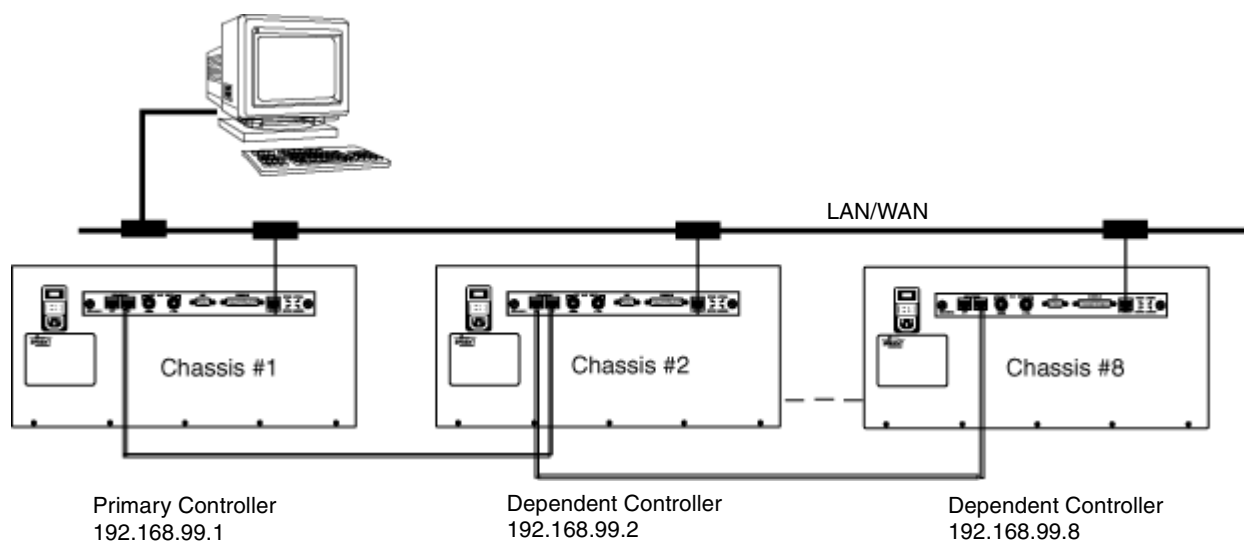

Figure A-4. Example of a Synchronized Multiple Chassis Connection using SMB-6000Bs
Each chassis must have its own IP address and be connected to a LAN or WAN (see “*Procedure 7: Set the IP Address*” on page 30, and *Figure A-4* on page 73).
**Note:** The *primary controller* chassis uses only the RJ-45 Expansion Out port. It **does not use** the RJ-45 Expansion In port. The *primary controller* chassis is viewed as the first chassis (Chassis #1) in the series of connected synchronized chassis. See *Figure A-4* on page 73.